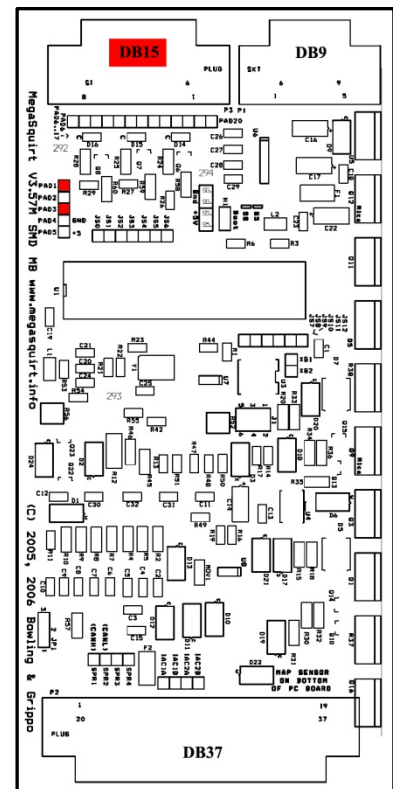

Figure 1.3: Megasquirt v3.57 Main Board
- **ECU Connection:** On the main board on the ECU, locate PAD1 (Spark Output A) and PAD3 (Spark Output B). Figure 1.3 illustrates the location of PAD1 and PAD3 on the main board. Connect these pads with a small jumper wire to two pins of your choosing on the DB15 socket. Assemble the DB15 connector two leads connected to the pins that correspond with where PAD1 and PAD3 are soldered on the DB15 socket.
- **Figure 1.3:** www.Megamanual.com. Megasquirt v3.57 Main Board overview.